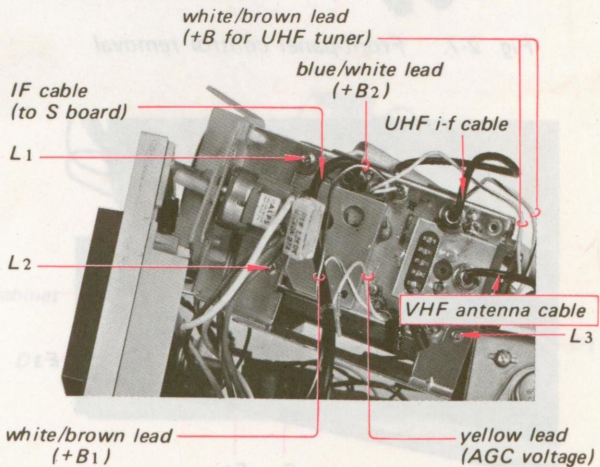

Fig. 2-15. VHF tuner removal, Steps 2 and 3
2. Remove the three screws labeled L1-3 in Fig. 2-15.
3. Unsolder the following leads at the VHF tuner. (See Fig. 2-15.)